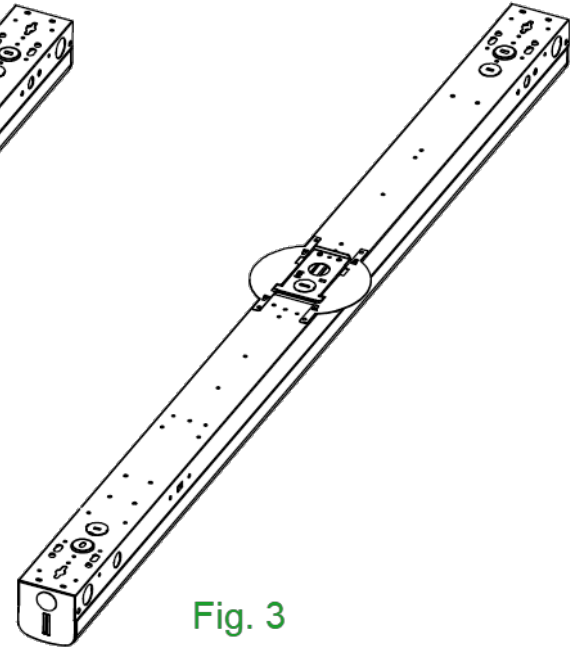

Fig. 3
- Connect and complete (Fig. 3)